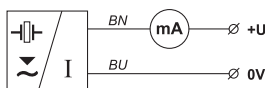

Fig. 24: Connection diagram of the ULM level meter (variant -I)
The ULM level meter or ULS sensor with a B or H type cable gland are connected to processing (display) units by means of a fixed PVC cable 5 m long. PG 11 (B) or plastic bushings with a thread for protective hoses (H) can be used as a cable gland. Connection diagrams are shown in Fig. 24, 25, 26, 27 and 27.